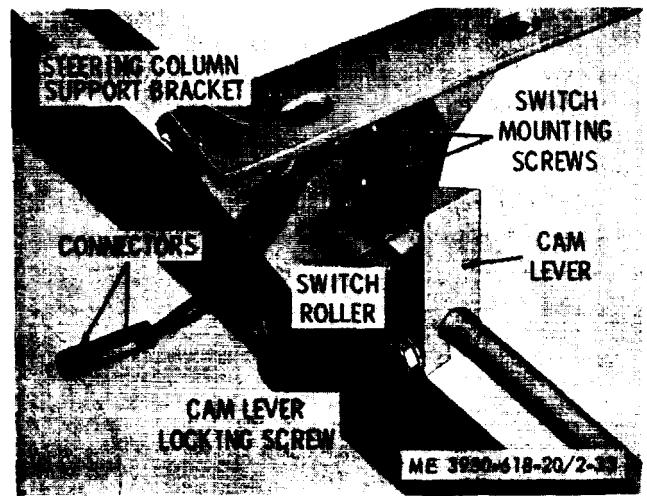

Figure 2-33. Transmission neutral switch. installed view.
a. General. The transmission neutral switch is attached to the underside of the steering column support bracket. The purpose of this switch is to prevent the engine from being started unless the direction shift lever is in neutral (N) position. A cam lever attached to the direction shift lever shaft actuates the switch. Always check the cam adjustment (d below) before replacing the switch when starter motor failures have been traced to the switch circuit.
b. Removal. See figure 2-33. To remove the switch, disconnect the 2 connectors on the switch leads from their mating connectors and then remove the 2 mounting screws.
(1) Place the direction shift lever in neutral (N) position.
(2) Loosen the locking screw on the cam lever (fig. 2-33) and position the cam lever so the switch roller is at the low point of the cam.
(3) Tighten the cam lever screw, making sure the cam lever does not move.
(4) Check adjustment by attempting to start the engine with the direction shift lever in either forward (F) or reverse (R) position. The starter motor should not operate unless the direction shift lever is in neutral (N) position.